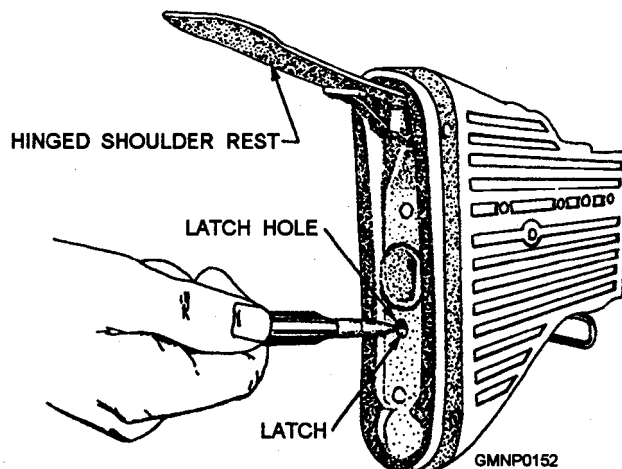

Figure 3-78.—Releasing the stock latch.
**REMOVING THE STOCK.—** To remove the stock, raise the hinged shoulder rest and insert the nose of a driftpin into the latch hole, as shown in figure 3-78. With the latch depressed, remove the stock by pulling it directly to the rear.